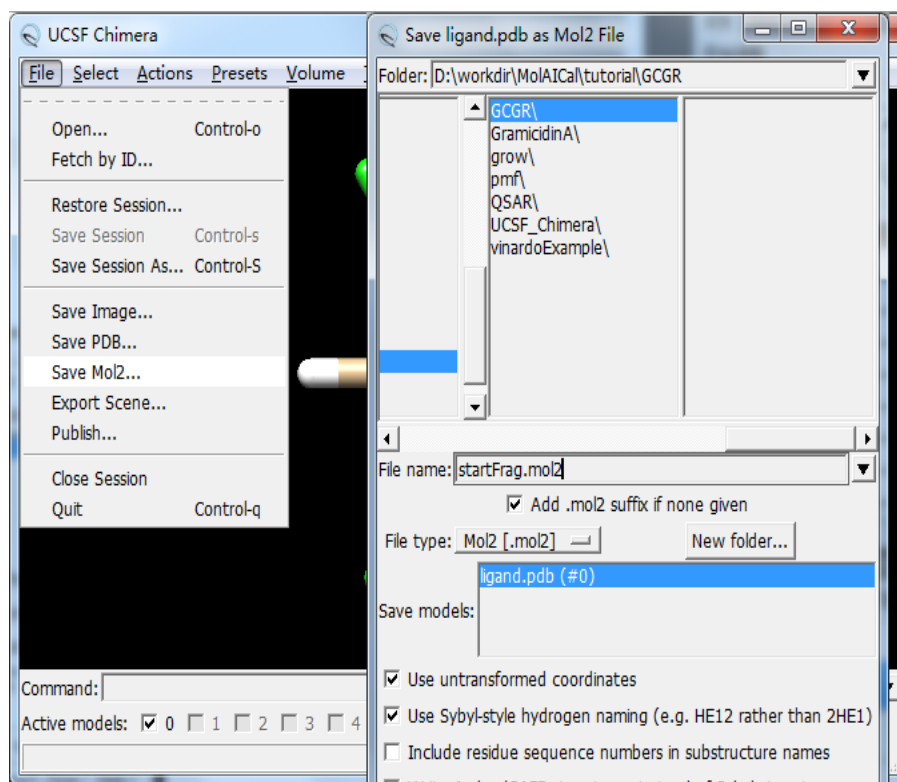

Figure 26. Saving coordinate of the initial growth fragment.
5. Then, save this fragment as Sybyl Mol2 format named “startFrag.mol2” (see Figure 26).